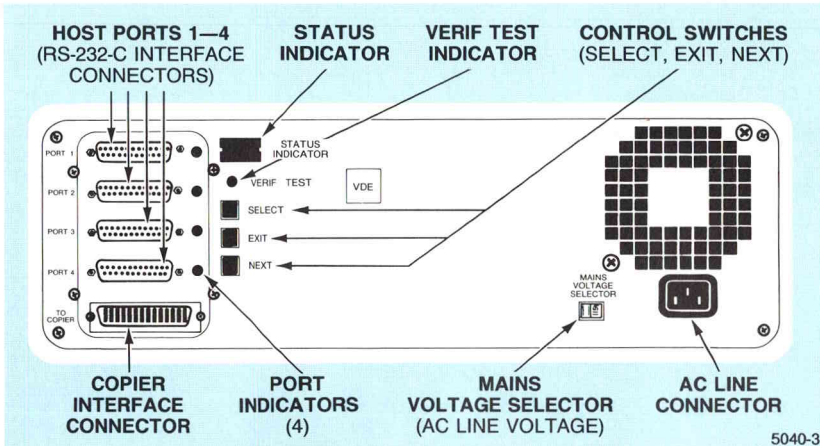

Figure 4-1. Rear Panel Control and Indicator Locations.
1. Press the SELECT switch on the rasterizer's rear panel (see Figure 4-1). The "VERIF TEST" LED starts blinking to indicate rear panel activation for further tests or for operator action, and the BUSY LED comes on.
1. Press the SELECT switch on the rasterizer rear panel (see Figure 4-1). The VERIF TEST LED starts blinking, indicating that the rear panel is activated for further tests or operator action.
2. Press the NEXT switch once. The VERIF TEST LED turns off and the LED next to the PORT 1 interface connector (see Figure 4-1) starts blinking.